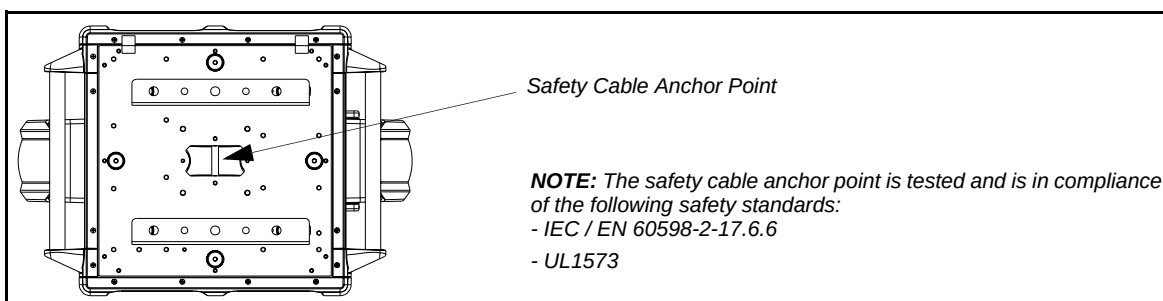

Figure 10: Safety Cable Installation / Luminaire Hanging
- Step 3. Attach safety cable (as required) as follows (refer to **Figure 10**):